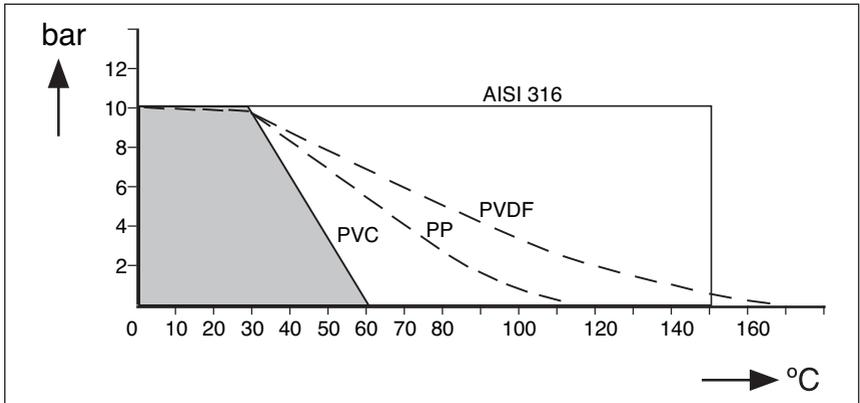

Figure 2-2. Pressure/temperature class
- max depending on material and application (see fig. 2-2)